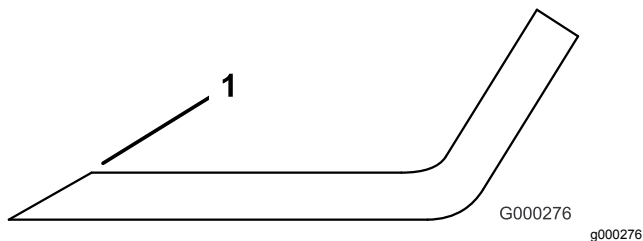

Figure 126
3. Examine the cutting edges of all the blades and sharpen the cutting edges if they are dull or nicked (Figure 126).
Note: Sharpen only the top of the cutting edge and maintain the original cutting angle to ensure sharpness (Figure 126). The blade remains balanced if the same amount of metal is removed from both cutting edges.